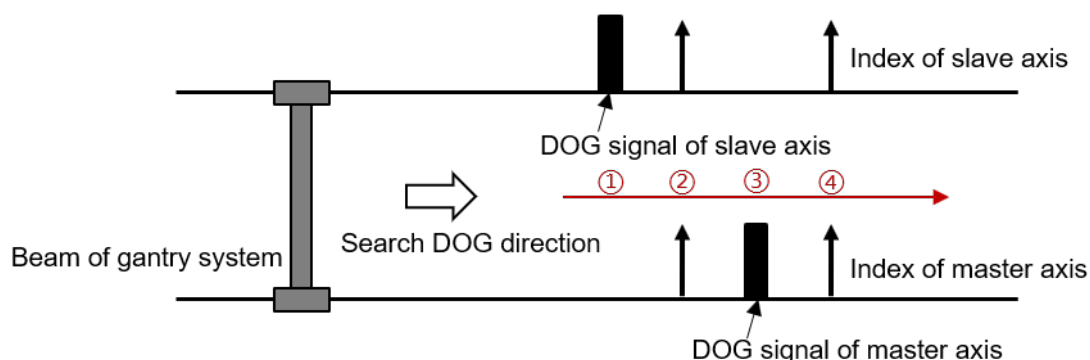

Figure 6.9.1
- V. Complete slave axis' homing procedure and master axis' homing procedure, as figure 6.9.1 shows.